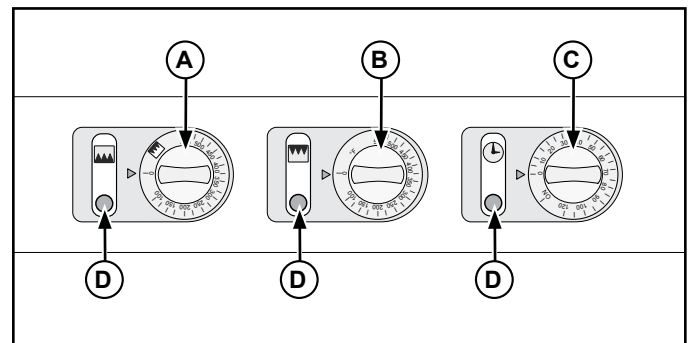

Figure 1. 40703 and 40701 Controls.
- Close the door and turn the bake control  (A) to 525°F (274°C). set the timer  (C) for 30 minutes. During this burn-in you may notice a slight odor, this is normal. See Figures 1 and 2.